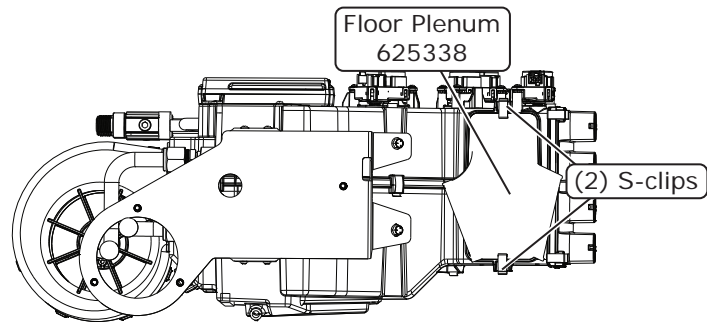

Figure 1
2. Install the floor plenum using (2) S-clips (See Figure 1 and Photo 2, below).